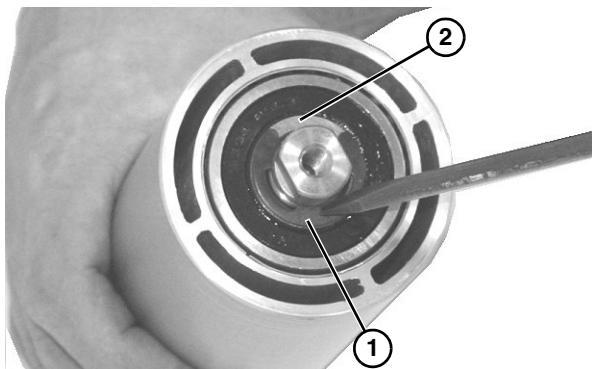

Figure 35
5. Remove the spindle shaft assembly: remove the clip ring (**Figure 35, item 1**) and washer (**Figure 35, item 2**) from one side of the spindle assembly.